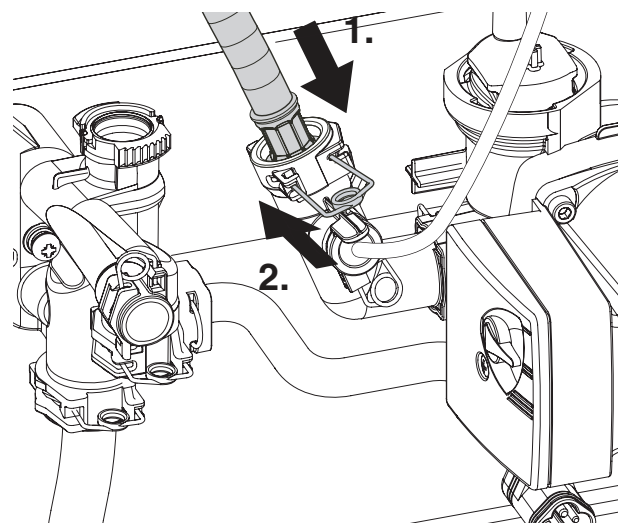

Fig. 31 Expansion vessel hose connection
1. Refer to figure 31 and insert the expansion vessel flexible pipe it to the fitting on the pump.